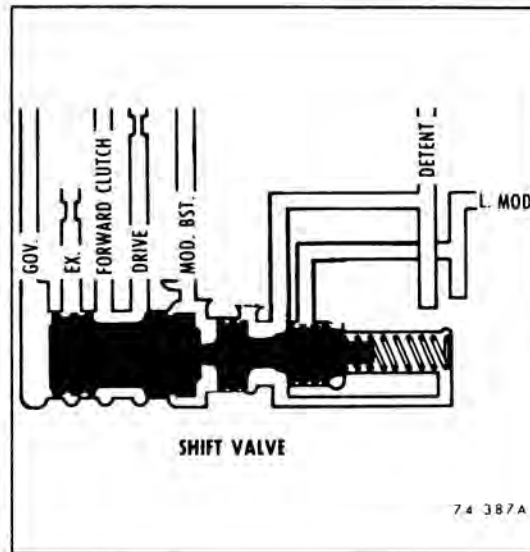

Figure 74-15—Shift Valve and Shift Control Valve
g. Shift Valve and Shift Control Valve (See Figure 74-15)